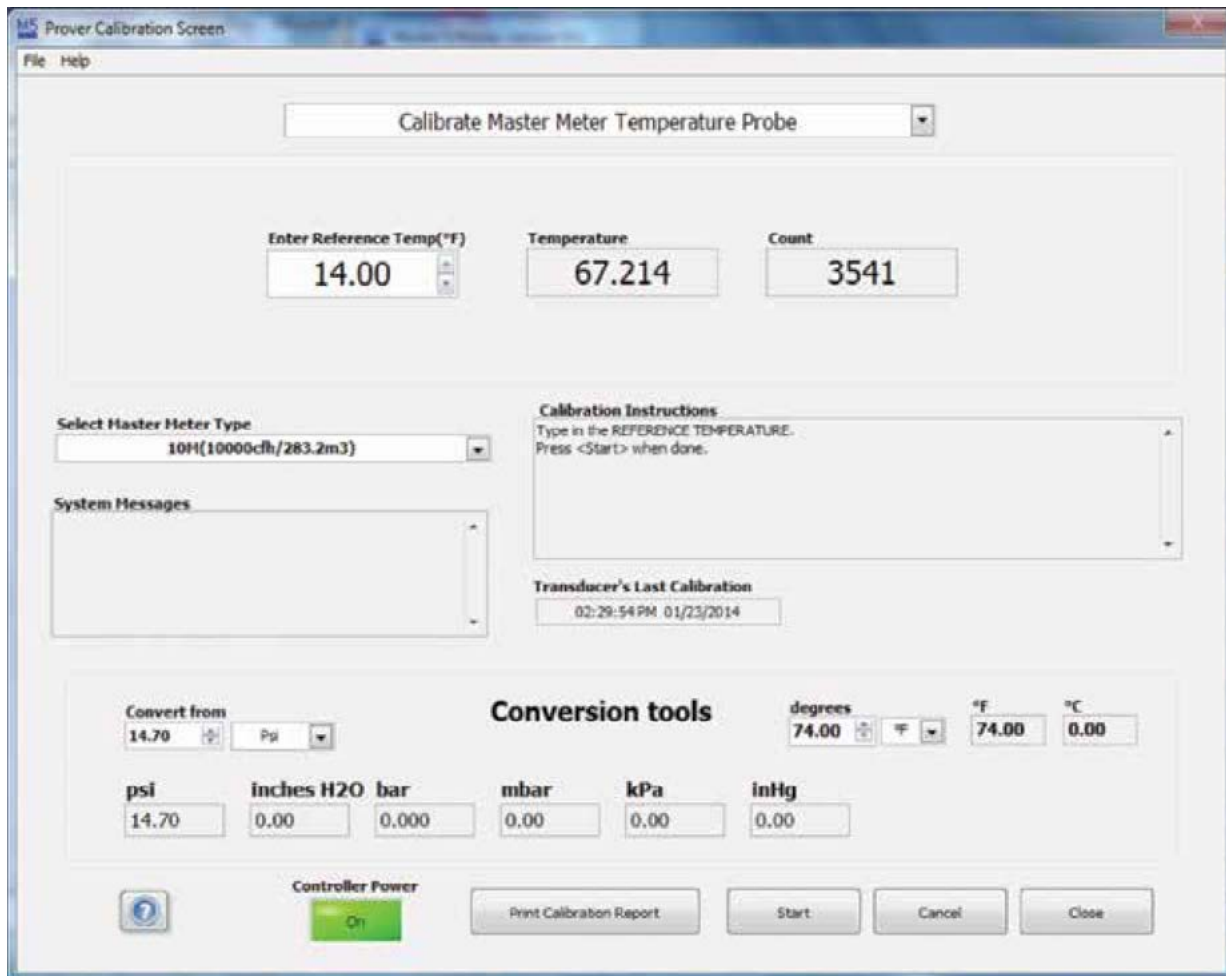

Figure 31: Select Calibrate Master Meter Temperature Probe
1. From the Prover Calibration Screen, select the pull down arrow and click "Calibrate Master Meter Temperature Probe." Refer to Figure 31.